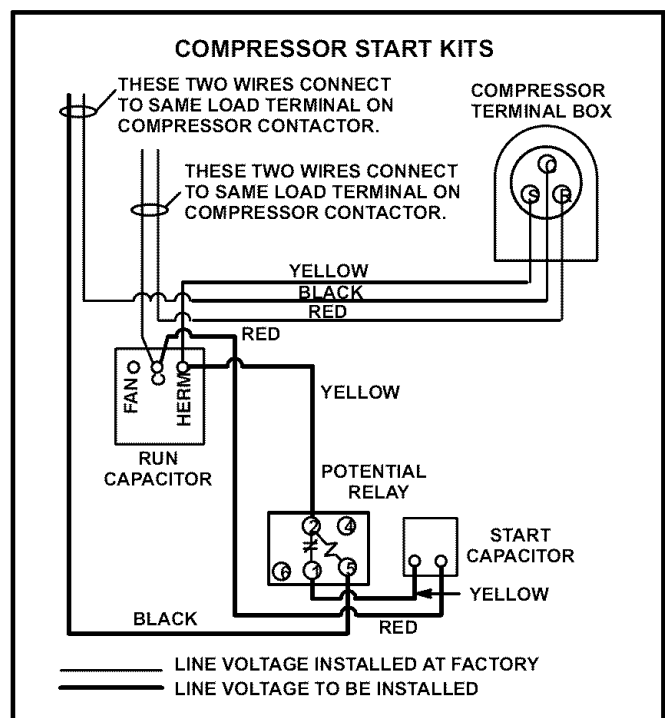

FIGURE 2
- 6 - Complete all wiring according to the wiring diagram in figure 2. Affix the adhesive-backed diagram (provided in the bag assembly) on the unit, preferably next to existing unit wiring diagram.